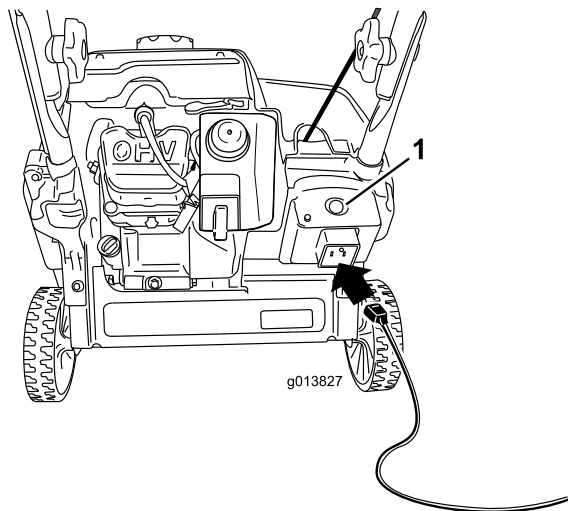

**Figure 17**
3. Firmly push in the primer 2 times with your thumb, holding the primer in for a second before releasing it each time (Figure 17).